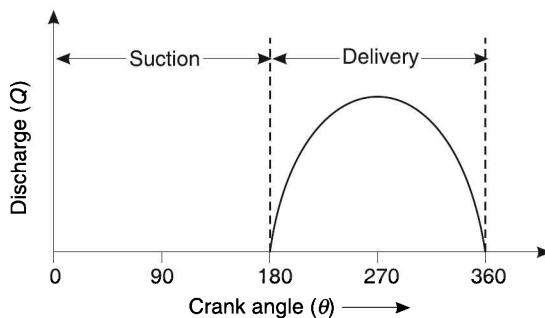

FIGURE 18.88 Variation of discharge.
The variation of discharge (Q) through delivery pipe with crank angle (θ) for single acting pump is as shown in Figure 18.88. The discharge is given by the pump in a delivery stroke only. The power input for a given discharge is: